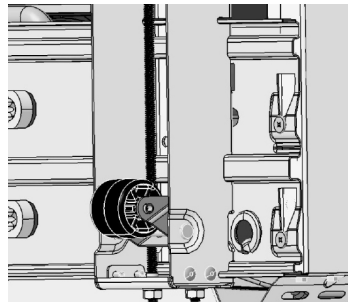

Fig. 3
- Fit the first Leveler Assembly onto a refrigerator/freezer (Fig. 3).